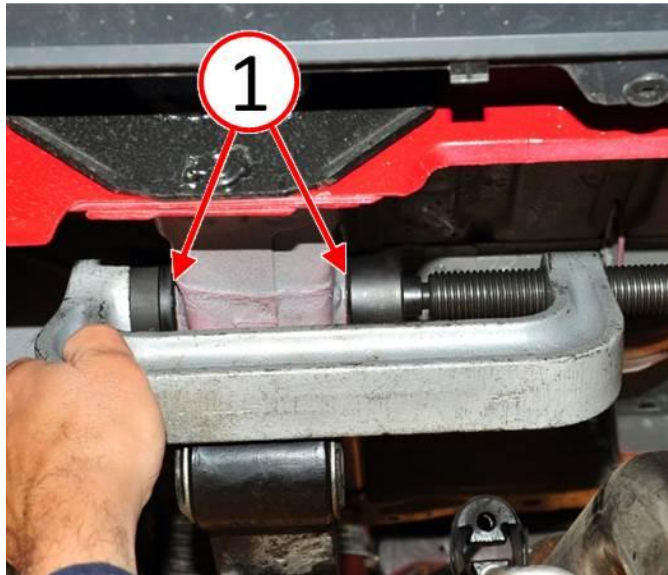

Fig. 13 Ensure Bushings Are Fully Seated
16. Ensure that both bushings (1) are fully seated into the vehicle frame with no visible gap between the bushing flange and the vehicle frame (Fig. 13).